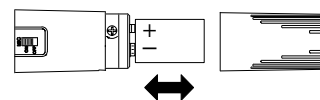

FIGURE 7
2. Unscrew the transmitter battery cover to expose the battery terminals, as shown in Figure 7.
3. Insert a fresh 9V alkaline battery into the battery compartment as shown in Figure 7 (Duracell MN1604 recommended and included with the system). A fresh 9V alkaline battery should typically provide 18 hours of performance time. A fully charged 8.4V NiCad battery should provide 2 hours of performance time. When the LOW BATTERY light on the transmitter turns on, you have 1 hour or less of useful battery life remaining; change the battery at your first opportunity.